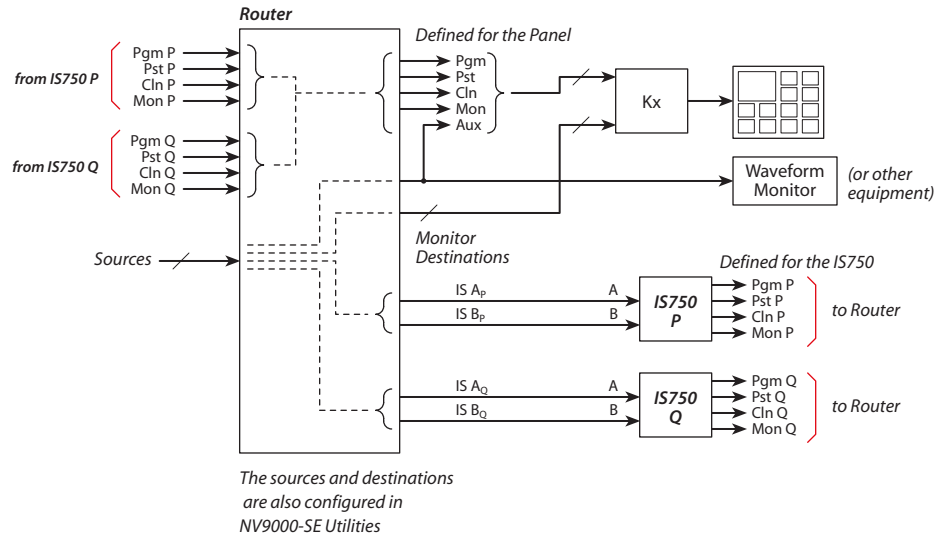

Fig. A-4: Router Connections with Aux Output for the Panel
- Case 1: If you do configure the aux output for the panel, multiple aux outputs can feed the Kaleido-X (and auxiliary equipment). It requires router connections as shown in Figure A-4: